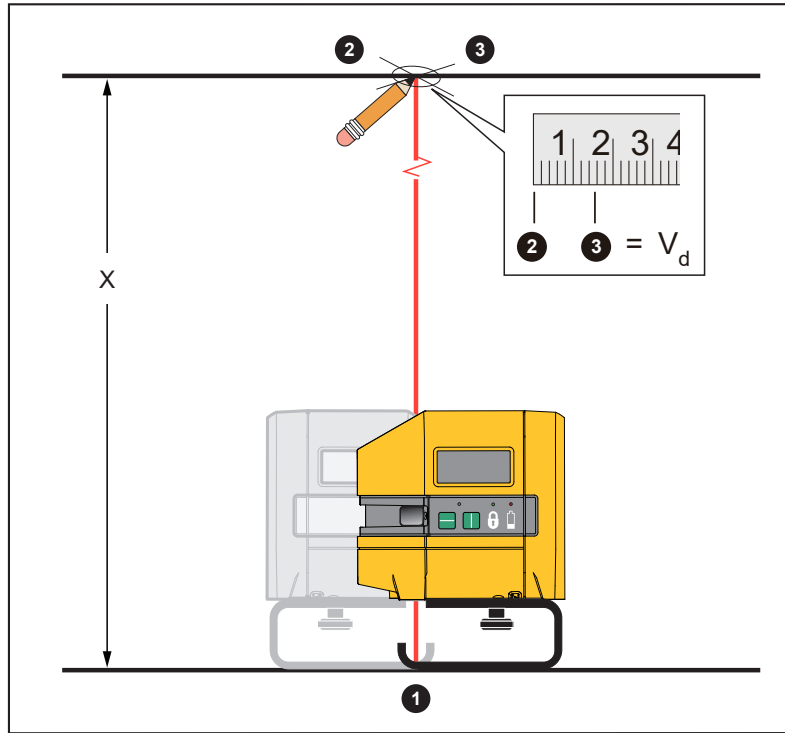

Figure 7. Plumb Accuracy
3. Center the down laser on both axes of the cross mark. See Figure 7.